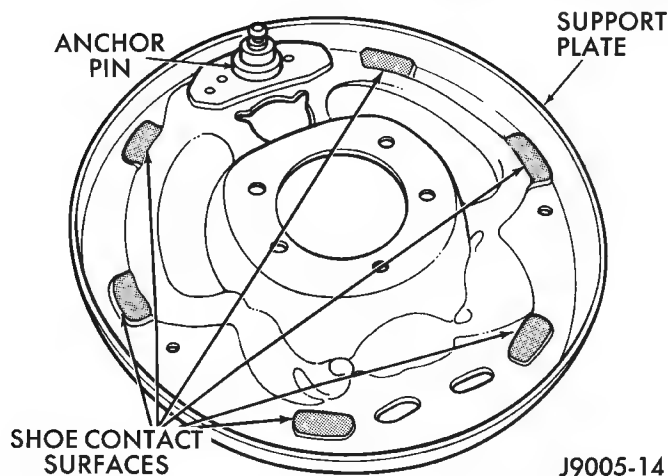

Fig. 3 Shoe Contact Surfaces (9-Inch Support Plate)
- (1) Clean support plate with Mopar brake cleaner. Replace support plate if worn, or rusted through at any point. Do not attempt to salvage, or reuse a damaged support plate.
- (2) If new drums are being installed, remove protective coating with Mopar Carb cleaner followed by final rinse with Mopar brake cleaner. A scotch brite pad, or steel wool can also be used to help loosen and remove coating if desired. **It is not necessary to machine drums to remove the coating.**
- (3) Clean and lubricate anchor pin with light coat of Mopar multi-mileage grease.
- (4) Apply Mopar multi-mileage grease to brakeshoe contact surfaces of support plate (Figs. 3 and 4).
- (5) Lubricate adjuster screw threads and pivot with Mopar spray lube.